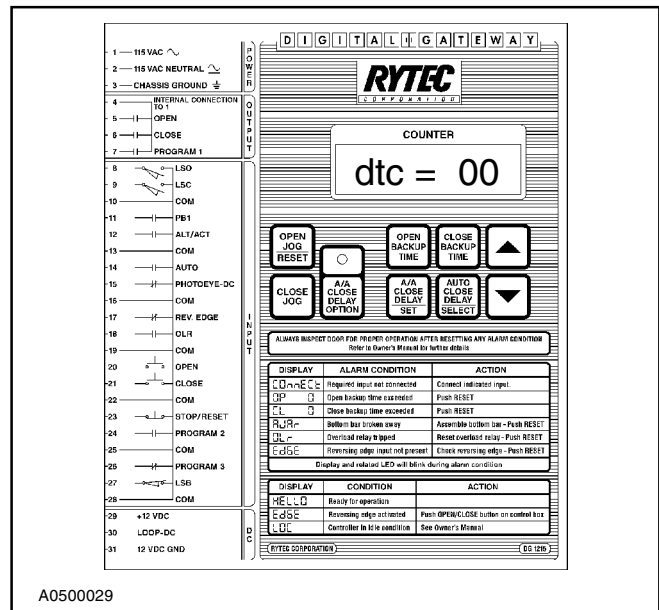

Figure 22
- When a timer is associated with an option, the display will show the code for the option and the timer setting. Use the UP and DOWN arrow keys to set the timers. Figure 22 shows the Delay to Close timer set to 0 seconds. Use the Set button to return to the Main Program menu.